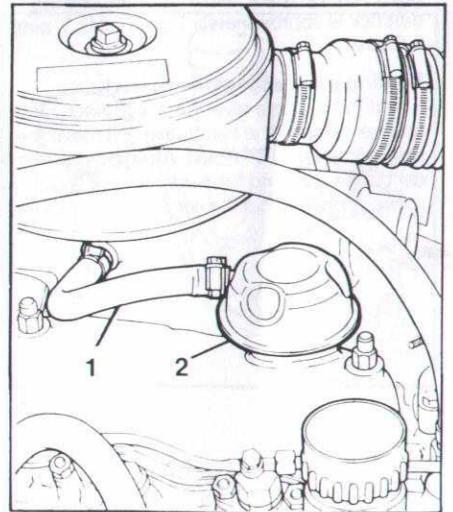

Fig. 3
**Engine breather filter – Fig. 3**